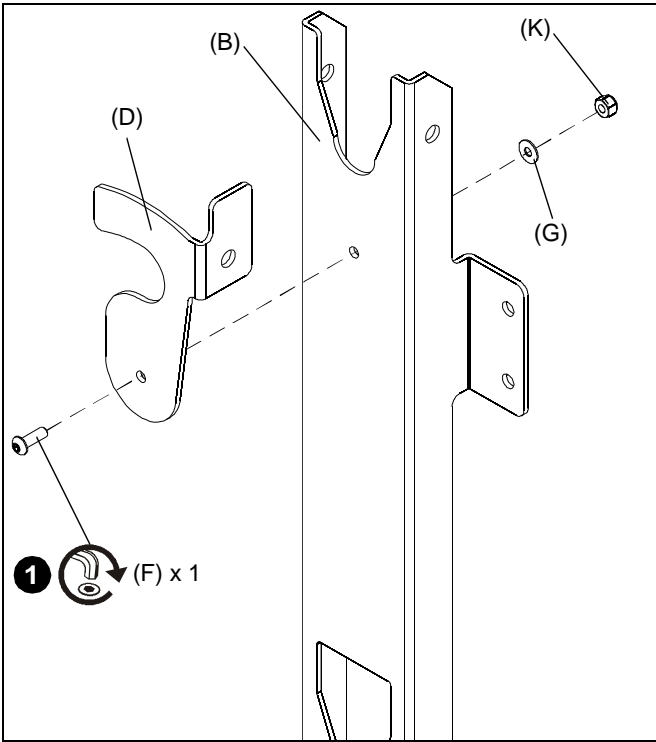

Figure 1
1. Attach locking flag (D) to vertical bracket (B) using one 1/4-20 x 3/4" button head cap screw (F), one 1 x .375 x .062" nylon spacer (G), and one 1/4" lock nut (K) through lower hole on locking flag and upper hole on vertical bracket. Repeat for remaining vertical bracket (B). (See Figure 1)